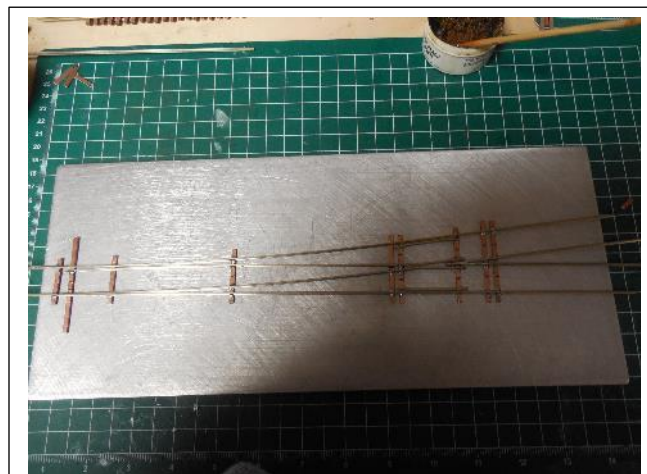

Fig 18 – Finished “raw turnout”
8. Congratulations, you now have a finished “raw turnout” (fig 18).